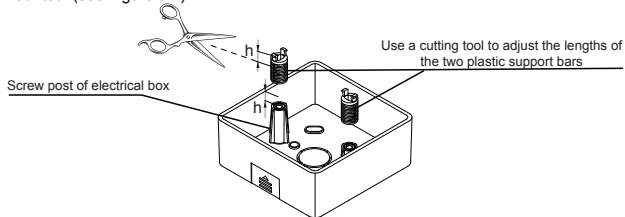

Figure 3.4
**3-3-2** Use a cutting tool to adjust the height of the two plastic support bars (accessory 2) to match the standard length of the screw pillars of the electrical box to the wall surface. Make sure that the support bars are level on the wall when the screw pillars of the electrical box are mounted. (see Figure 3.4)